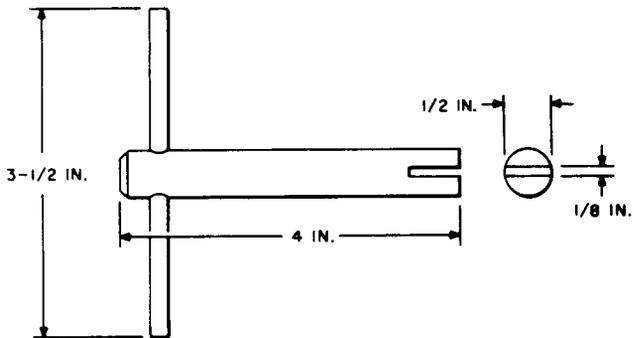

Fig. 5—AECO H-10001-3 Adjuster Tool
2.05 AECO H-10001-3: The AECO H-10001-3 tool (Fig. 5) is an adjuster used on plunger-type line and out-trunk switches.